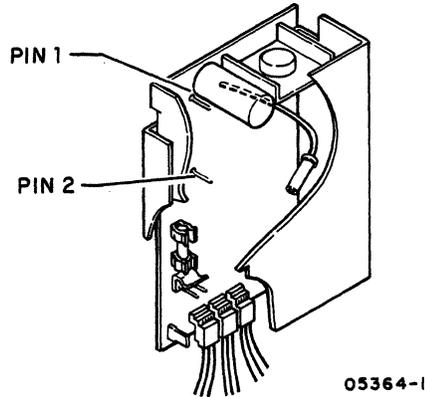

Figure 1-2. Power Supply Board
4. In figure 1-2, the 115/230 volt jumper wire would be connected to pin ___ for 115 V operation.